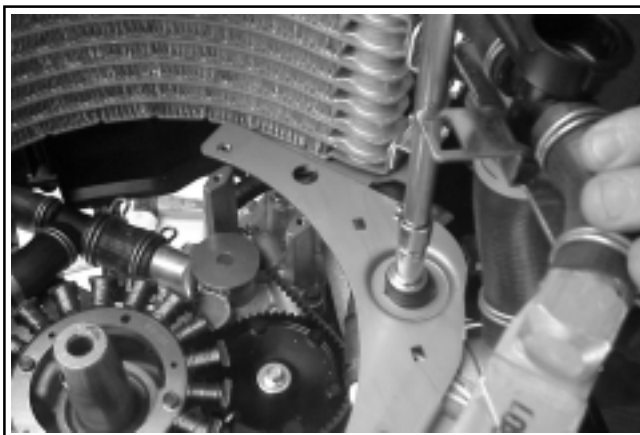

Figure 11-75. Torquing Center Nut.
6. Position the rubber mount assembly over the stud with spacer on the intake manifold. Apply rubber lubricant to top of mount and install the flat washer and hex. flange nut. Torque the nut to **9.9 N·m (88 in. lb.)**. See Figure 11-75.